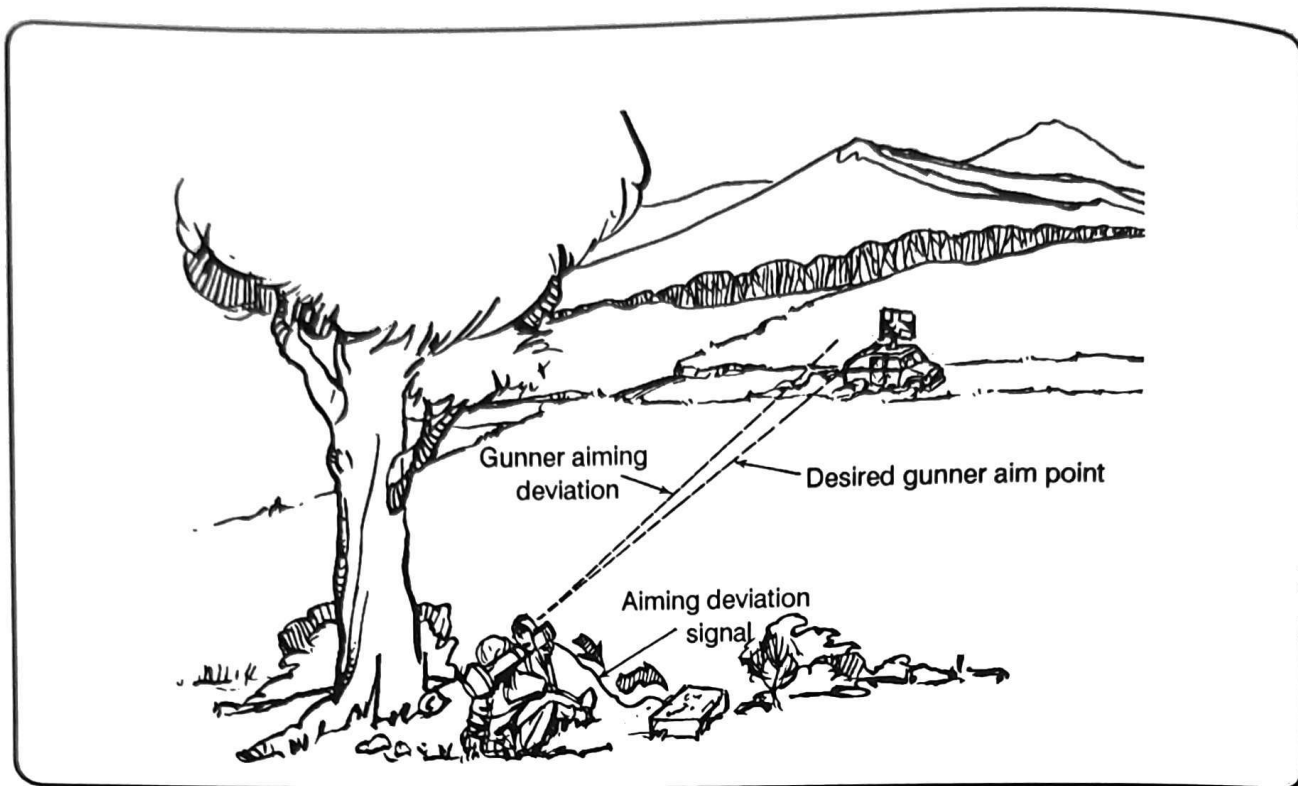

Figure 6-7. Gunner aiming deviation.
(1) HIT or MISS indications are not directly related to numerical scores. The monitoring set can register a high score with a MISS indication, or a low score with a HIT indication. This depends on whether the gunner's aiming deviations exceeded the maximum aiming deviation limits.
(2) The gunner's aiming deviation shows his aim point with respect to the desired target aim point (Figure 6-7).